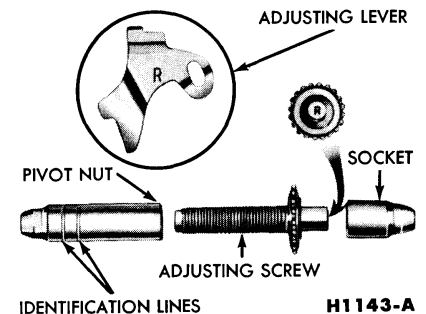

FIG. 9—Adjusting Screw and Lever Identification
Interchanging the brake shoe adjusting screw assemblies from one side of the car to the other would cause the brake shoes to retract rather than expand each time the automatic adjusting mechanism operated. To prevent installation on the wrong side of the car, the socket end of the adjusting screw is stamped with an R or L (Fig. 9). The adjusting pivot nuts can be distinguished by the number of grooves machined around the body of the nut. Two grooves indicate a right hand nut; one groove indicates a left hand nut.
11. Hook the cable hook into the hole in the adjusting lever. The adjusting levers are stamped with an R or L to indicate their installation on a right or left hand brake assembly (Fig. 9).